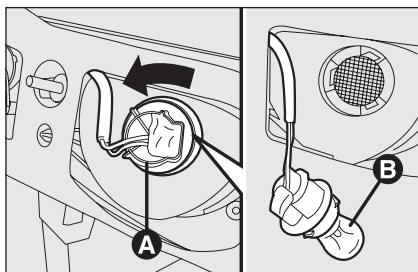

fig. 35
- ☐ turn the bulb holder **A-fig. 35** counterclockwise, remove the bulb **B** and replace it;